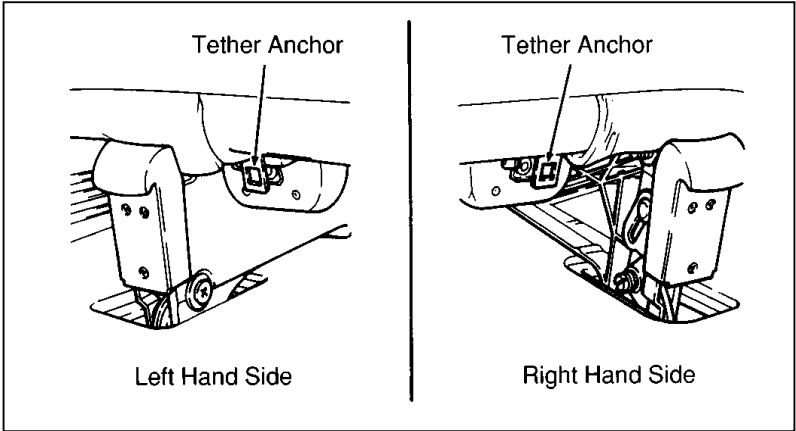

Figure 2: Tether anchor location — second row bench seat (with built-in child safety seat)
- **SECOND ROW BENCH (if equipped) SEATING POSITION** — You must use one of the two tether strap anchor locations (one each side) provided on the back of the seat cushion frame. (Refer to Figures 2 and 3.)